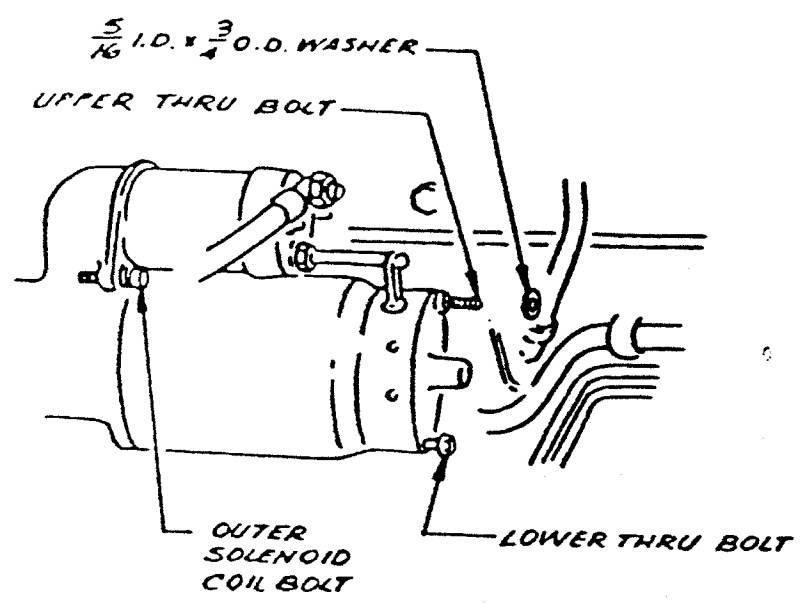

FIG. 10
20. Tighten the lower starter motor thru bolt against the heat shield. Place a 5/16" I.D. x 3/4" O.D. flat washer and a 1/4-20 nylock nut on the stud end of the upper thru bolt, and tighten. Install a 1/4-20 nylock nut on the exposed end of the outer solenoid coil bolt and tighten. Make sure heat shield will not short against any wiring. See fig. 10.